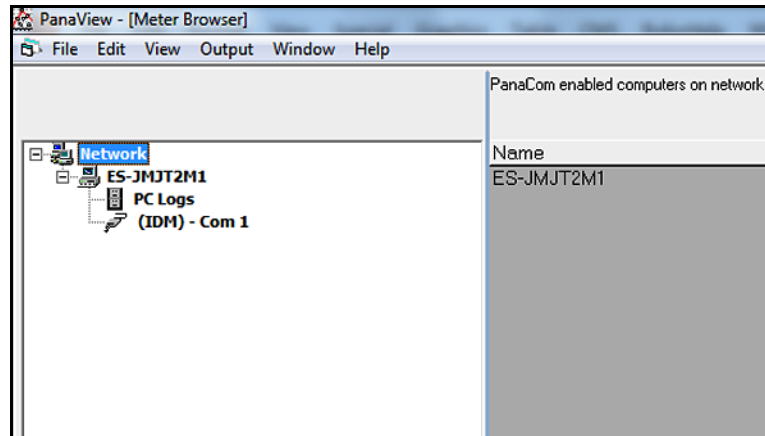

Figure 35: The New Serial Port Branch
1. Notice in *Figure 35* below that the network tree now has the newly configured communication port listed.